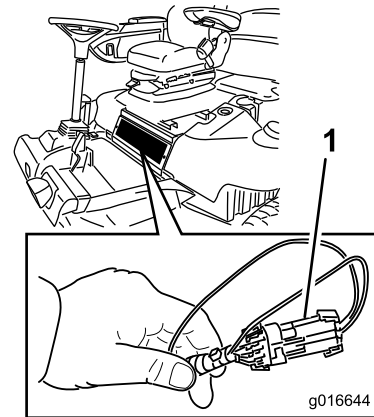

Figure 39
2. Remove the access panel located beneath the front of the seat (Figure 39).
3. Locate the wire harness and connectors near the controller (Figure 39).